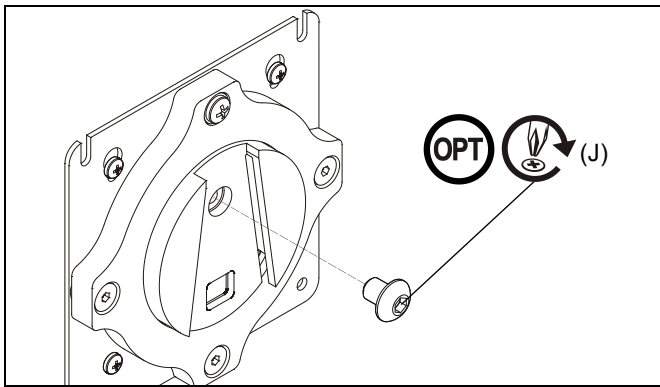

Figure 14
**NOTE:** (Optional) Rotational adjustment may be locked by installing rotational locking screw (J) into back of faceplate. (See Figure 14)